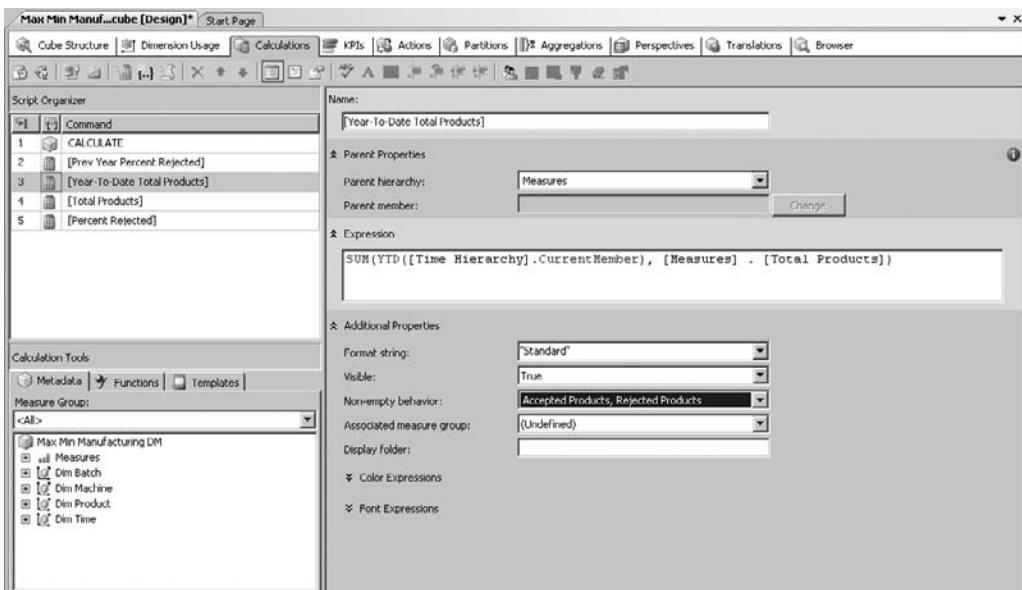

Figure 11-32 The Year-To-Date Total Products calculated measure
14. Check the Accepted Products and Rejected Products measures in the Non-empty behavior selection window and click OK. The Calculations tab will appear as shown in Figure 11-32.